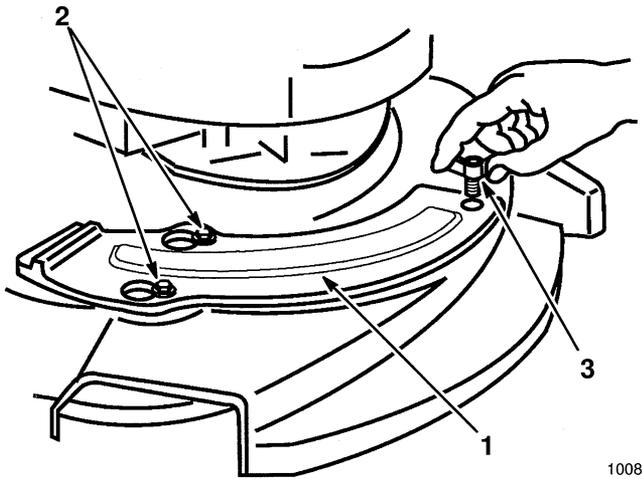

Figure 47
- Two shoulder bolts on the housing protrude through slotted holes in the mulch plate and do not have to be loosened or removed (Fig. 47). Mulch plate moves over the shoulder bolt heads.
- Secure with wing screw (Fig. 47).